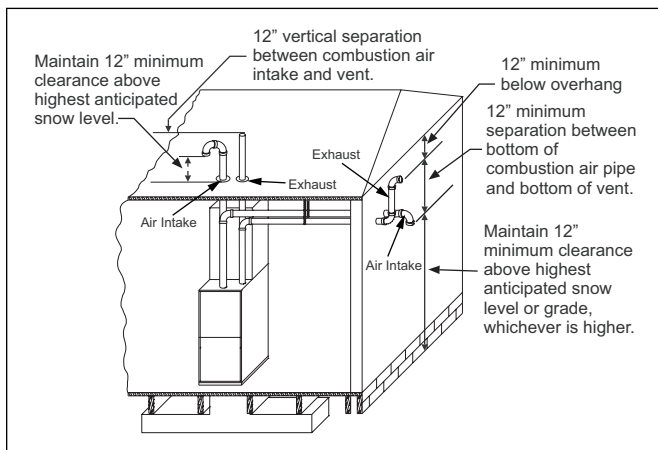

Figure 26 Termination Configuration - 2 Pipe
7. Direct vent systems must be installed so the vent and the combustion air pipes terminate in the same atmospheric zone. Refer to Figures 26 or 27.